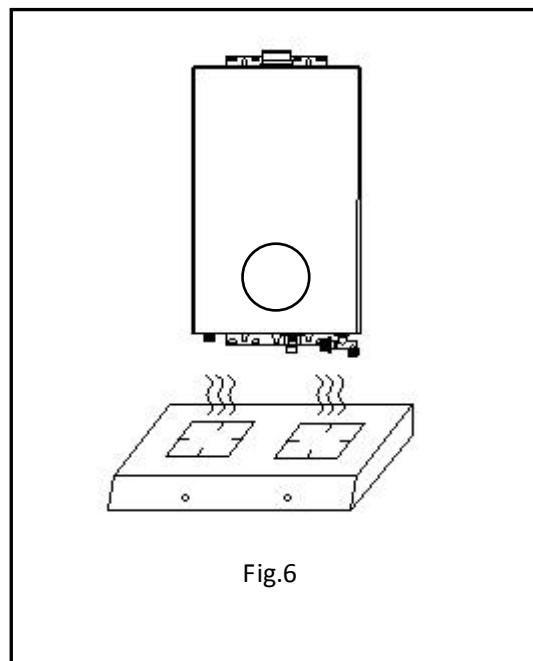

Fig.6
- Don't install the heater above the gas stoves or other heat sources. (Fig. 6)